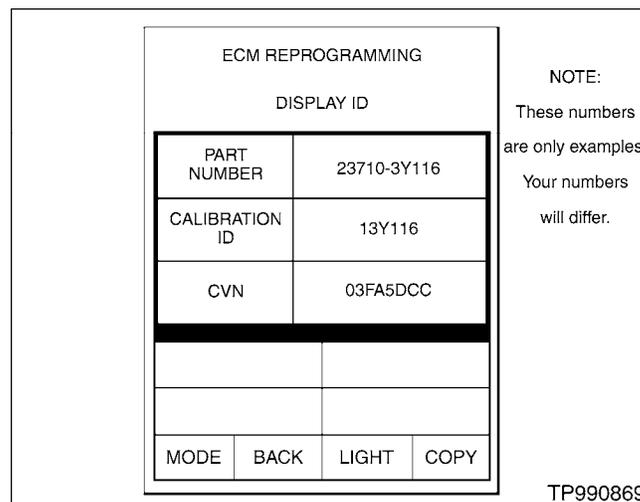

Figure C8
13. Press **"CHECK ECM P/N"** to "confirm" (take note of) the ECM part number on the vehicle to be reprogrammed (see Figure C8).